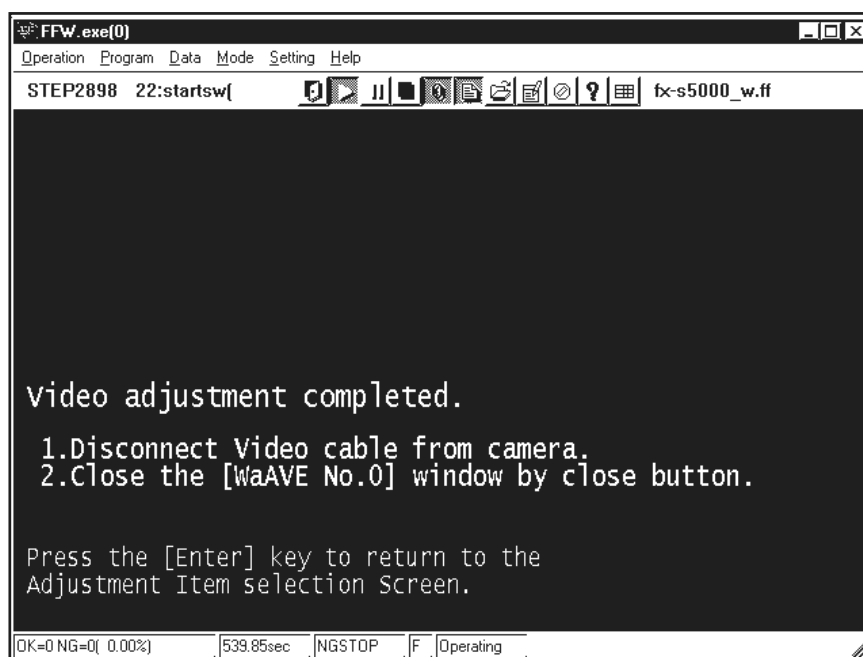

Fig.33
--->The **[VIDEO Adjustment Complete screen (Fig.33)]** appears.